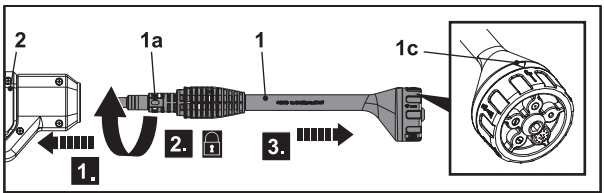

Fig. 1
- Align and insert the tongues (1a) of the 5 in 1 lance (1) into the grooves of the spray gun (2) connection port (Fig. 1, step 1).
- Turn the 5 in 1 lance (1) clockwise (step 2) and then pull it to outside slightly (step 3) to lock it in place (step 3).